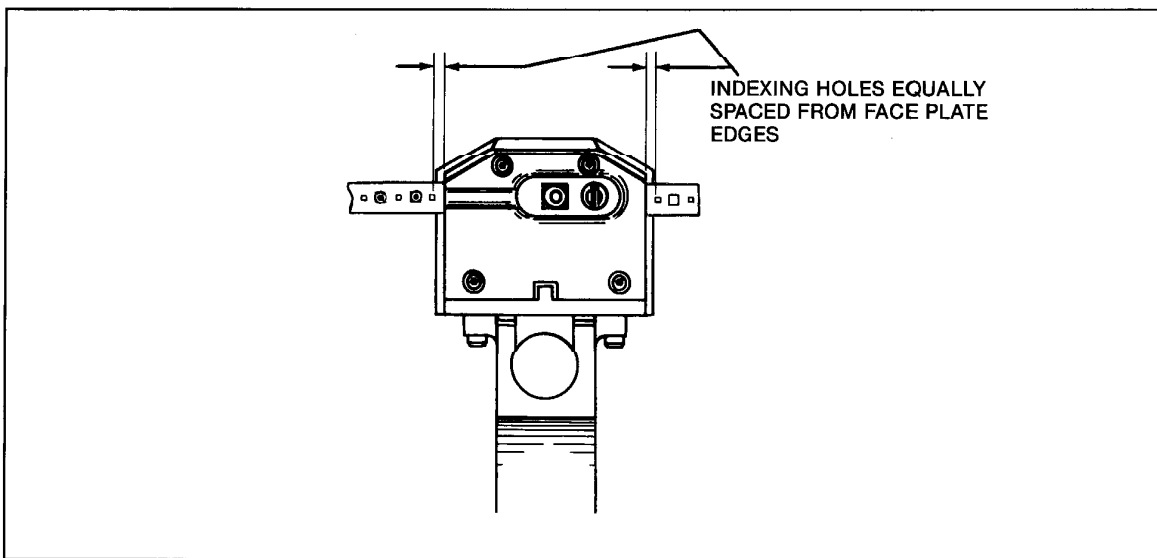

Fig. 3-5. Carrier Strip Alignment
4. When you see the carrier strip on other side of hand tool, stop pushing carrier strip and ensure that square indexing holes (not holes from which sockets were removed) appear on both sides of face plate, equally spaced from face plate (see Figure 3-5). If not, push carrier strip for one more click, and again check for proper alignment.
5. If tool is still jammed, follow tool unloading procedures (see Paragraph 3.4). Release index finger from socket carrier strip by inserting scriber into slot and moving index finger to the right and toward the rear of tool. Pull out product strip, and cut off strip to point where product begins. Punch out about six miniature spring sockets and feed strip back into tool. Listen for clicking sound that indicates the index finger is engaged in square index hole of strip. See Figure 3-5 for proper alignment check.